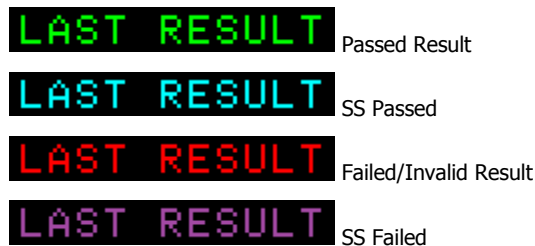

Figure 7.5-1: Last Result Option
- Select the "Last Result" text above the Set Torque on the Main Screen (Figure 7.5-1). The Last Result text will be green if the cycle passed or red if the cycle failed or was invalid. With a Smart Socket connected, the text will be blue if the cycle passed or purple if the cycle failed.